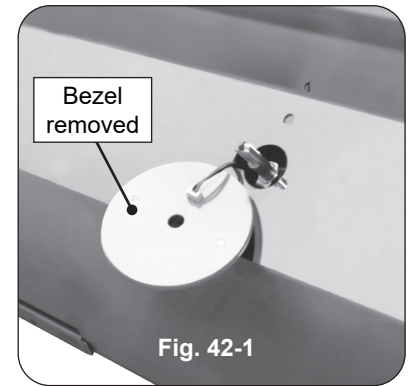

Fig. 42-1
4. Slowly lift away the lighted bezels to clear the valve stems, and let rest as shown in Fig. 42-1.